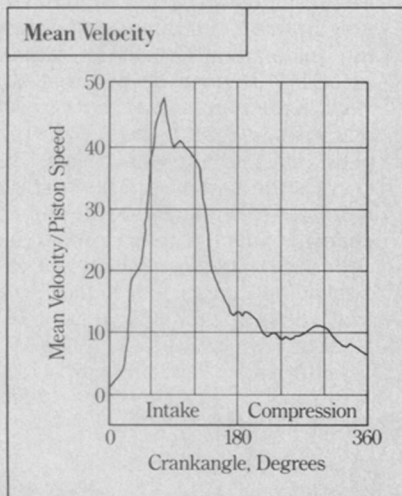

Figure 1: History of mean velocity at a single engine location.
**F**IGURE 1 shows mean velocity measured at a single location during an engine cycle. High velocity exists during the intake stroke when the inlet flow is rushing through the narrow valve opening. This jet-like flow into the cylinder causes large velocity differences between adjacent cylinder locations and produces strong turbulence. As the end of the intake stroke is approached (180 degrees in Figure 1), the levels of both mean velocity and turbulence drop rapidly. This decrease is a result of the changing boundary conditions for the cylinder—from strong inflow to no inflow. During the compression stroke the flow field evolves, but it undergoes no drastic changes. However, in a high-squish chamber, where the flow is forced into a small bowl in the piston or cylinder head, considerable turbulence is generated near the end of the compression stroke.